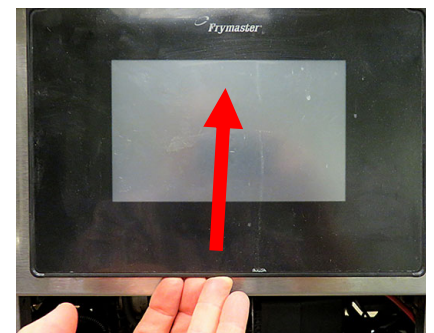

Figure 9
13. Slide the controller up to disengage it from the bezel (see Figure 9).